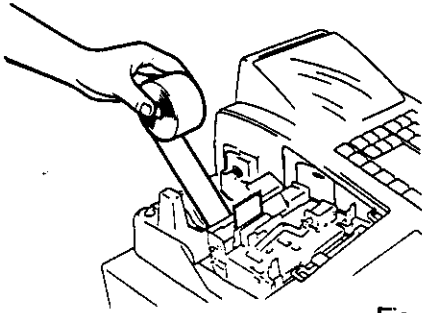

Fig. 7
2. Pull the paper core straight upward. (or cut the paper at the rear, then remove the remaining paper end portion by pressing the [RF] key.) (Fig. 7)